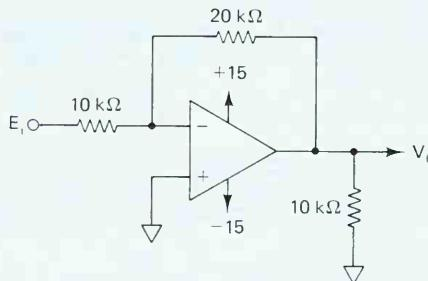

FIGURE P3-4
- 3-4.** Identify the circuit in Fig. P3-4.
- 3-5.** Calculate V_o and the op amp's output current in Fig. P3-4 if E_i equals (a) +5 V; (b) -2 V. For each situation, state if the op amp sources or sinks current.
- 3-6.** Calculate E_i in Fig. P3-4 if V_o equals (a) +5 V; (b) -2 V.
- 3-7.** Let E_i be a triangle wave with a frequency of 100 Hz and a peak value of 5 V in Fig. P3-4. (a) Plot E_i and V_o vs. time; (b) V_o vs. E_i .